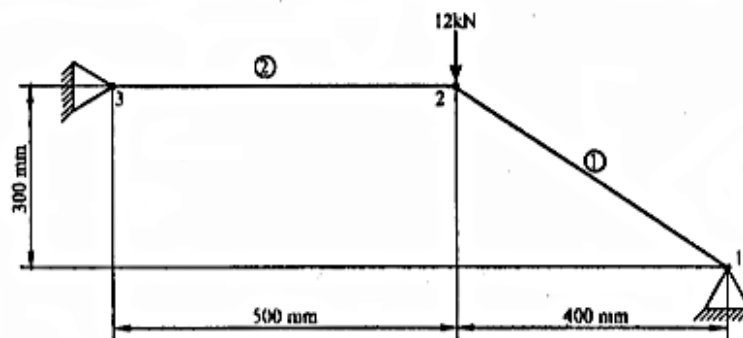

Fig. 5
- 4 a) For the truss shown in fig.5, determine nodal displacements, element stresses and support reactions given  $E = 2 \times 10^5 \text{ N/mm}^2$ ,  $A = 200 \text{ mm}^2$  **14**